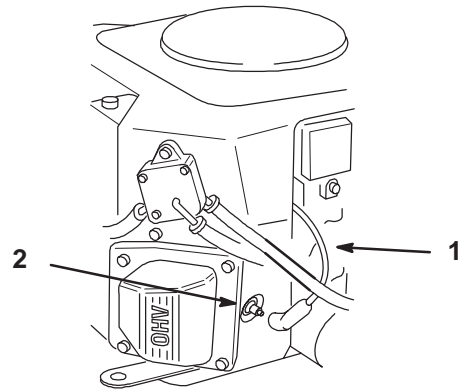

Figure 32
2. Pull the wire(s) off of the spark plug(s) (Fig. 32). Clean around the spark plug(s) to prevent dirt from falling into the engine and potentially causing damage.
3. Push the wire(s) onto the spark plug(s) (Fig. 32).